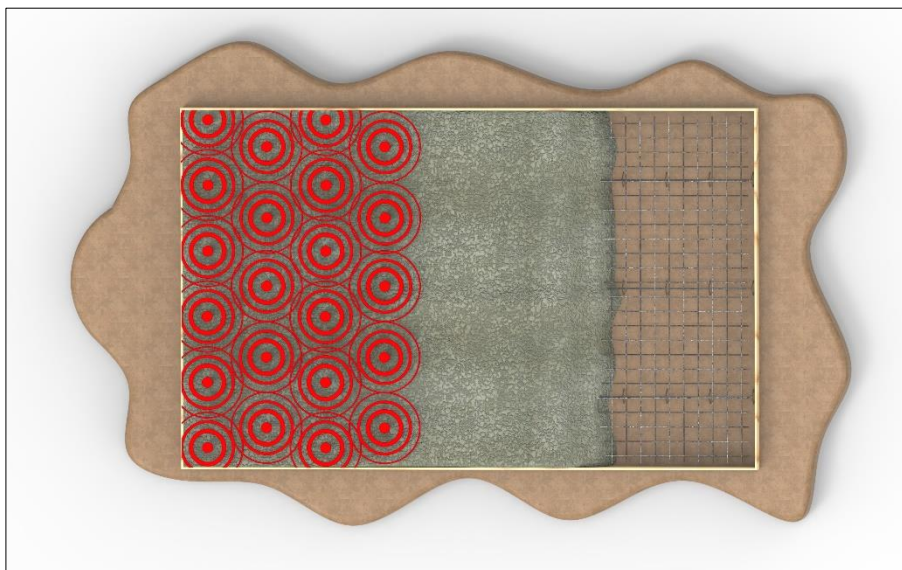

Figure 7: Vibration locations when compacting concrete floors
3. Pull the flexible poker-vibrators out of the concrete and move it to the following place. Approximately 50 cm further (figure 7).